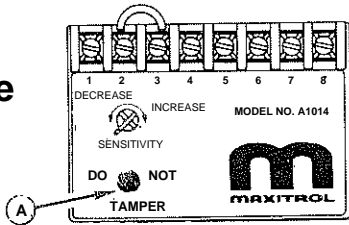

Figure 4
**If calibrating at the Amplifier** - adjust calibration potentiometer (A), Figure 4, until temperature reads the same as the set temperature. If the temperature is below the set point, then rotate calibration potentiometer (A) clockwise. If the temperature is above the set point, rotate the potentiometer counter clockwise.
1. Disconnect wires from terminal #4 in the Amplifier, Figure 4. This causes the valve to call for continuous high fire.
1. Disconnect wire from terminal # 8 in the Amplifier, Figure 4, this causes valve to call for continuous low fire.
1. Disconnect wires from terminal # 4 in the Amplifier, Figure 4, this causes the valve to call for continuous high fire.
1. Disconnect wire from terminal #8 in the Amplifier, Figure 4, This causes valve to call for continuous low fire.